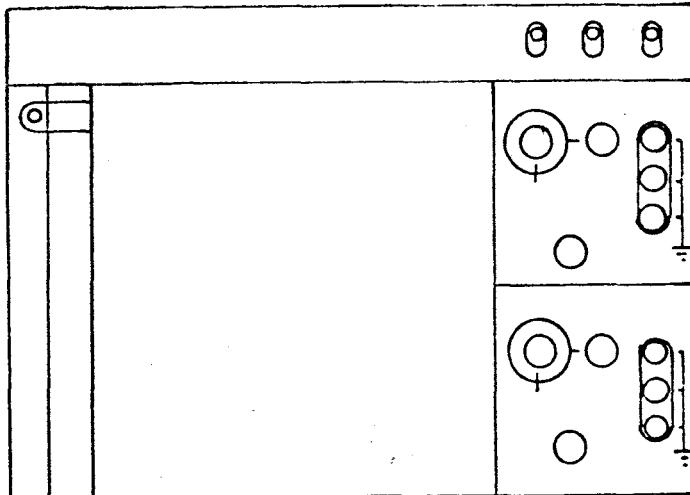

Figure 10
5. Push the FUNCTION SELECTOR BUTTON, 13, once to select the next calibration function, Y=1; X=0. This should move the plotter pen to the upper left hand corner of the paper or field of interest as demonstrated by Figure 10 below.